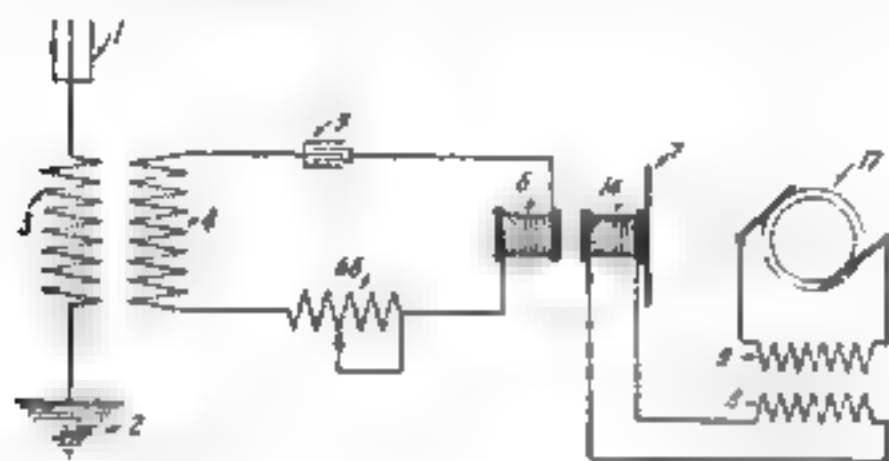
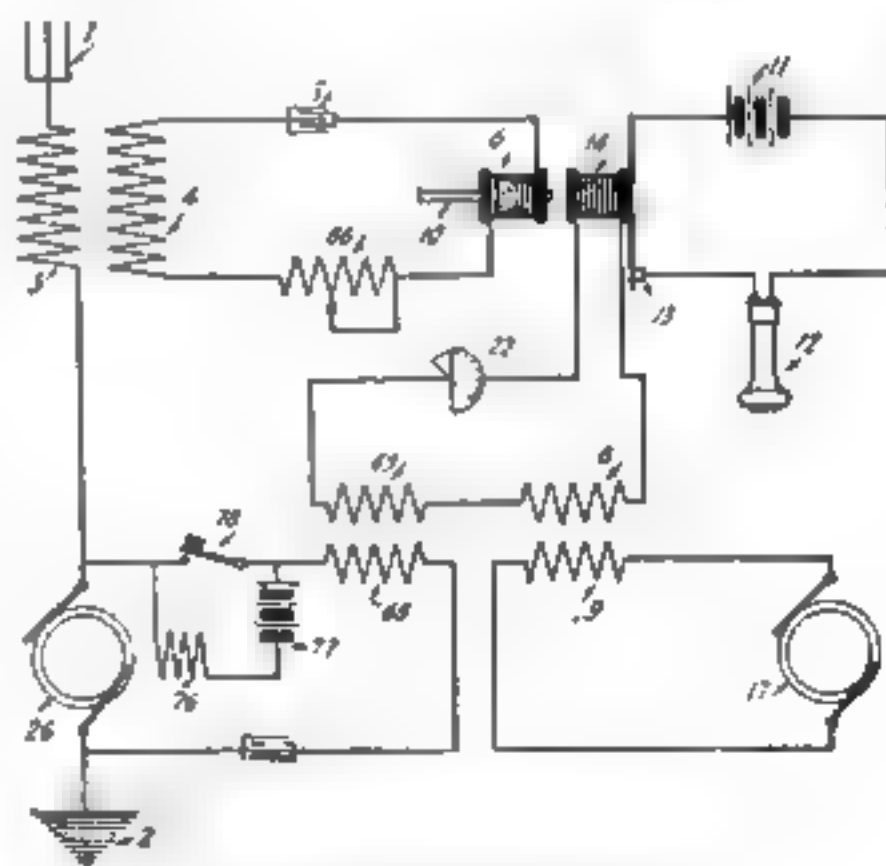

Fig. 2. A heterodyne receiver, operating on the electrical beats principle
Fig. 3. Sending and receiving simultaneously with continuous waves
U. S. Patents 1,141,386 and 1,141,453, issued in 1915 to R. A. Fessenden, show not only a simple "heterodyne" receiver operating on the electrical-beats principle now so widely used, in Fig. 2, but also a method for simultaneously sending and receiving with continuous waves, as in Fig. 3. Taking up the first of these, it is seen that the antenna 1 is connected to ground 2 through the primary of the inductive coupler 3. The secondary 4 has in series with it a variable tuning inductance 66, a condenser 5 and one winding of an electro-dynamometer-telephone, 6. The second telephone winding 14 is coupled to a small radio-frequency alternator 17 through a transformer 8, 9. The dynamometer 6, 14, consists of two coils placed end to end, one of which is stationary and may have a fine iron-wire core and the other of which is mounted upon a diaphragm 7. In receiving radio signals the antenna and secondary systems are tuned exactly or approximately to the frequency of the incoming waves, so that currents of this
Figure 3 shows the duplex heterodyne system. Here the receiver just described has added to it, in series with the antenna, a radio-frequency alternator powerful enough to generate the strong waves used in sending. This transmitting alternator has its field coils, 76, supplied with power through the sending key, 78, and also has connected across its armature terminals a circuit which is
coupled to the receiver coil, 14, by way of transformer 68, 69. The condenser, 27, may be inserted to tune the auxiliary circuit. All the other main elements of Fig. 3 are the same as shown in Fig. 2, except that variable condenser 22 may be added to make the diaphragm-coil circuit resonant.
When the sending key, 78, is open the sending generator, 26, does not generate and the system is entirely equivalent to that shown in Fig. 2, since all the receiving portions are operative. When the key is depressed to make a Morse dot or dash, however, the generator field circuit is closed and intense radio-frequency currents are set up in the aerial system. These induce strong currents in the receiver coil, 6, which might have so great an effect on the diaphragm as to make receiving from the distant station impos-
The patent specification points out a number of variations of both simple and duplex heterodyne operation; for instance, the telephone receiver may be mechanically tuned to the beat-note frequency, or the action of the dynamometer may control a microphonic-contact relay (13, Fig. 3) operating an ordinary telephone 12 by varying the current from a local battery 11. It is also suggested that, instead of currents, the voltages set up by the received waves may be used to interact with locally generated radio-frequency voltages, upon an electro-static telephone, to produce heterodyne beats and a musical signal.